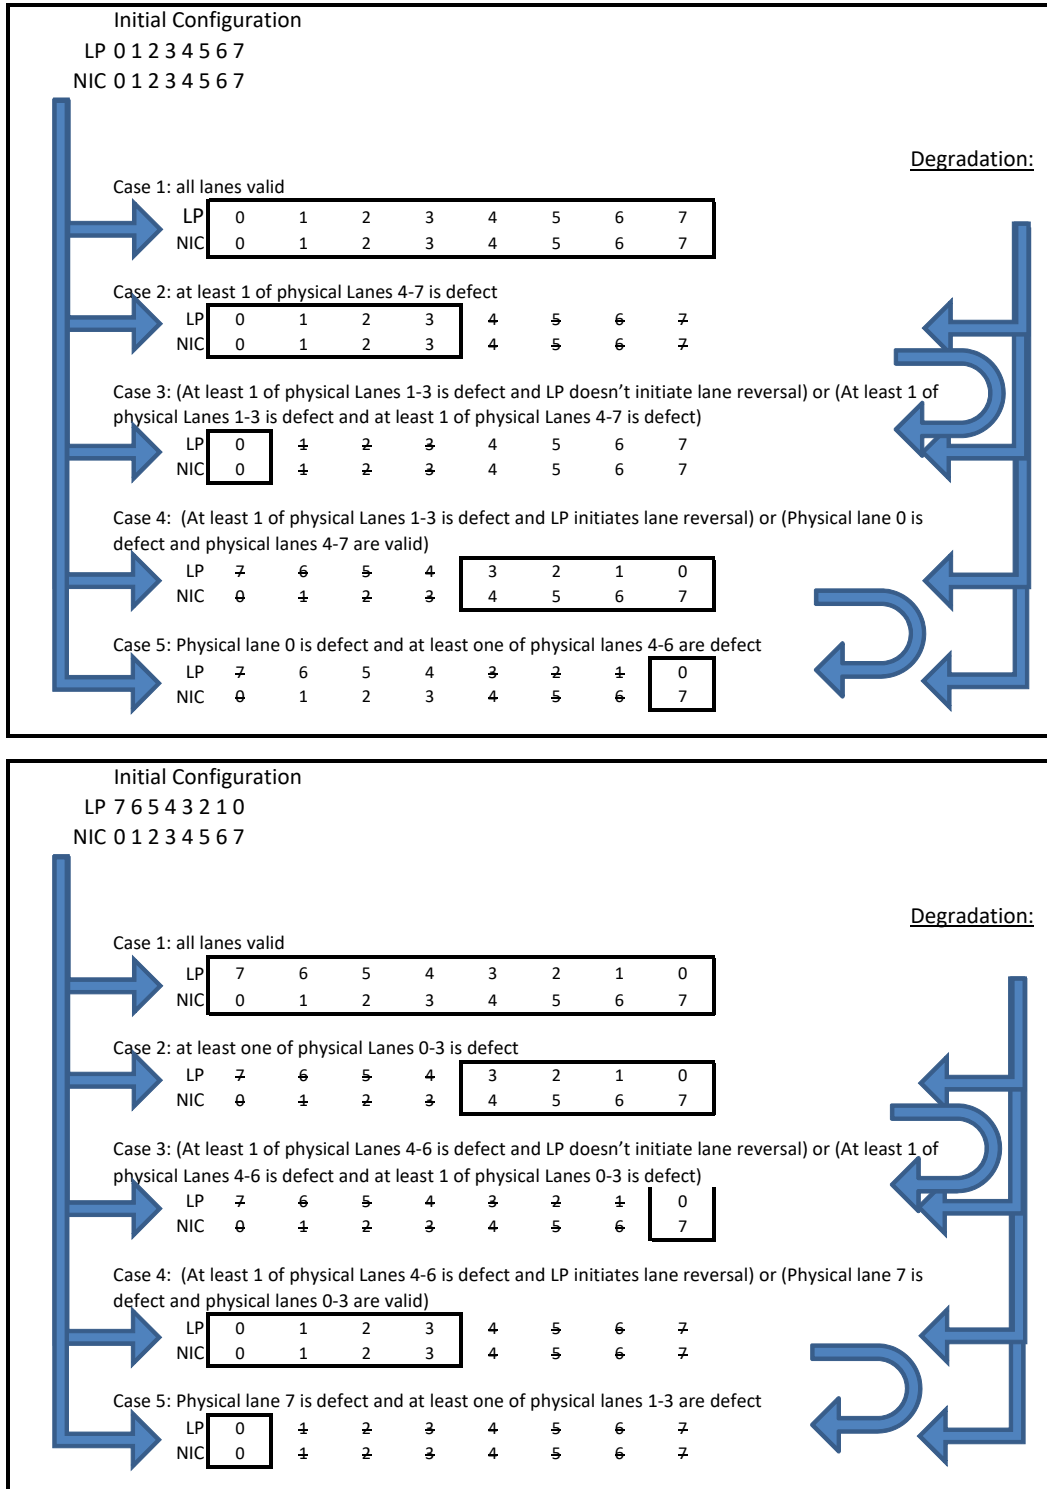
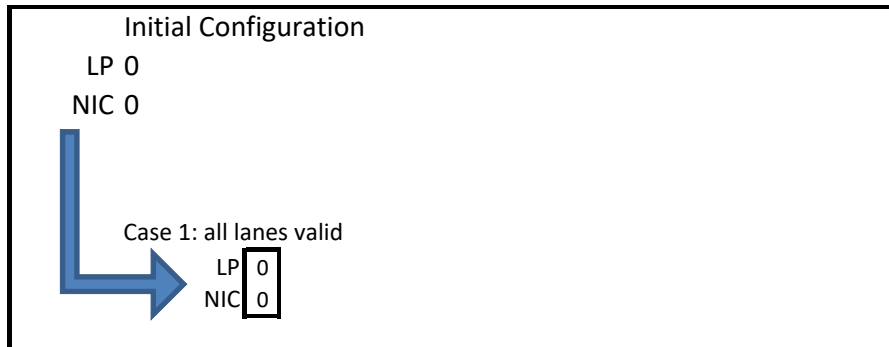

Figure 3-2. Link Width Configurations for a x8 Port
Figure 3-4. Link Width Configurations for a x1 Port
- If lane 0 is found valid, the X550 does not initiate lane reversal. The link partner (LP) may initiate lane reversal (to end up with an optimal lane width) and the X550 consents with the lane reversal.
Figure 3-2, Figure 3-3, and Figure 3-4 depict the initial link width configuration and link degradation options. In Figure 3-2 and Figure 3-3, the upper part of the Figure describes link options where the Link Partner (LP) and the X550 (NIC) are aligned. The bottom part of the Figure describes link options where the Link Partner and the X550 are reversed in order.
- Figure 3-2 applies when either the Link partner or the X550 is physically set to x8.
- Figure 3-4 applies when both the Link partner or the X550 is physically set to x1.